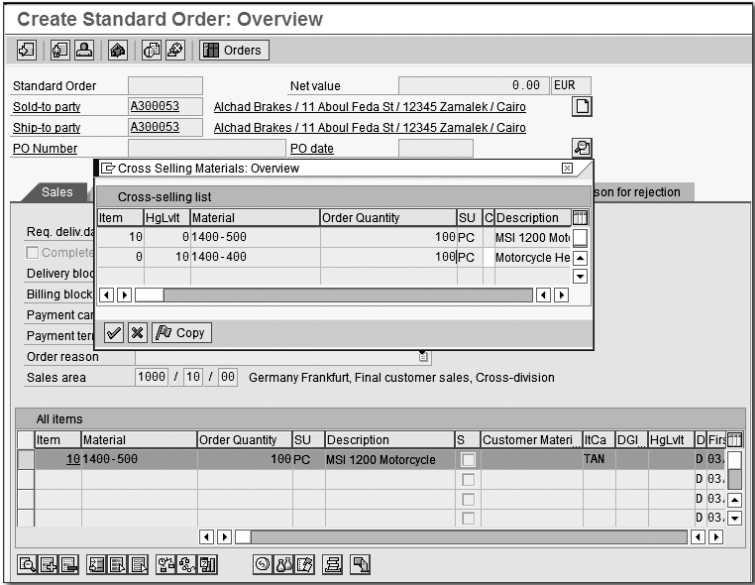

Figure 3.20 Create Standard Order with Cross Selling
4. You'll now see the CROSS SALES pop-up window (Figure 3.20), which lists all of the materials that can be sold with the main material. If the customer wants them, you have to enter the quantity and click on the Copy button.